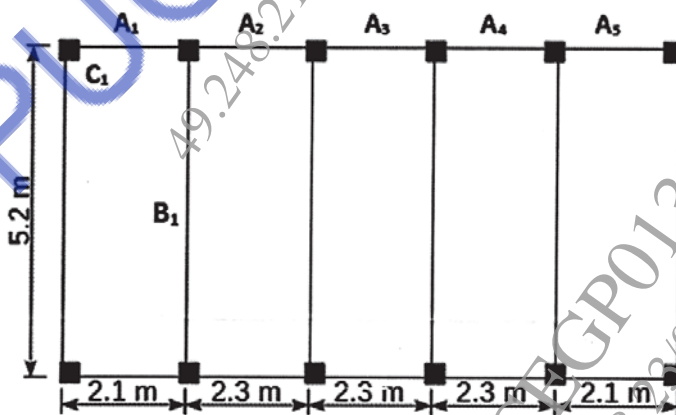

Fig. 1
**Q2)** a) Figure 1 shows the floor plan of a building. The beams are of size 230 mm × 450 mm. Beam B1 is reinforced with 4-16# bars in tension and 2-10# in compression. The load on the slab is 6 kN/m2. Design the beam for shear. Adopt M-25 grade of concrete and Fe-500 grade of steel. Sketch the details of reinforcement. **[14]**
- Q3) a)** For the floor plan shown in Fig. 1, design the continuous beam  $A_1-A_2-A_3-A_4-A_5$ . The total load on the slab is  $5.5 \text{ kN/m}^2$ . Design the beam using M-20 grade concrete and Fe-500 grade of steel. Sketch the details of reinforcement. [15]
- b)** For the floor plan shown in Fig. 1, design column  $C_1$ . Show how the column is oriented, The column is subjected to working load of  $700 \text{ kN}$ , working moment of  $90 \text{ kN-m}$  about major axis bisecting the depth of column. The unsupported length of column is  $4.0 \text{ m}$ . The column is fixed at both the ends. Show detailed design calculations and reinforcement details. Use M-30 grade concrete and Fe-500 grade of steel. [14]